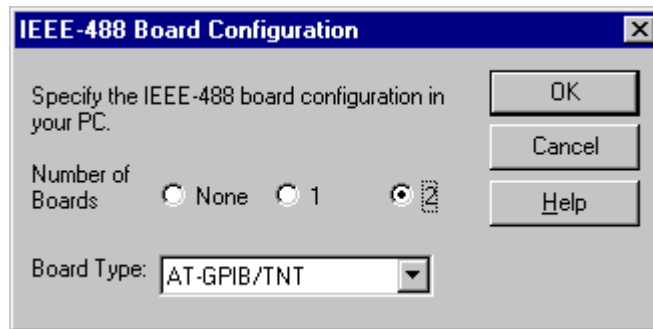

Figure 26. IEEE Board Configuration
- Select **Configure** and **IEEE-488 Boards**. The dialog box shown in Figure 26 opens.